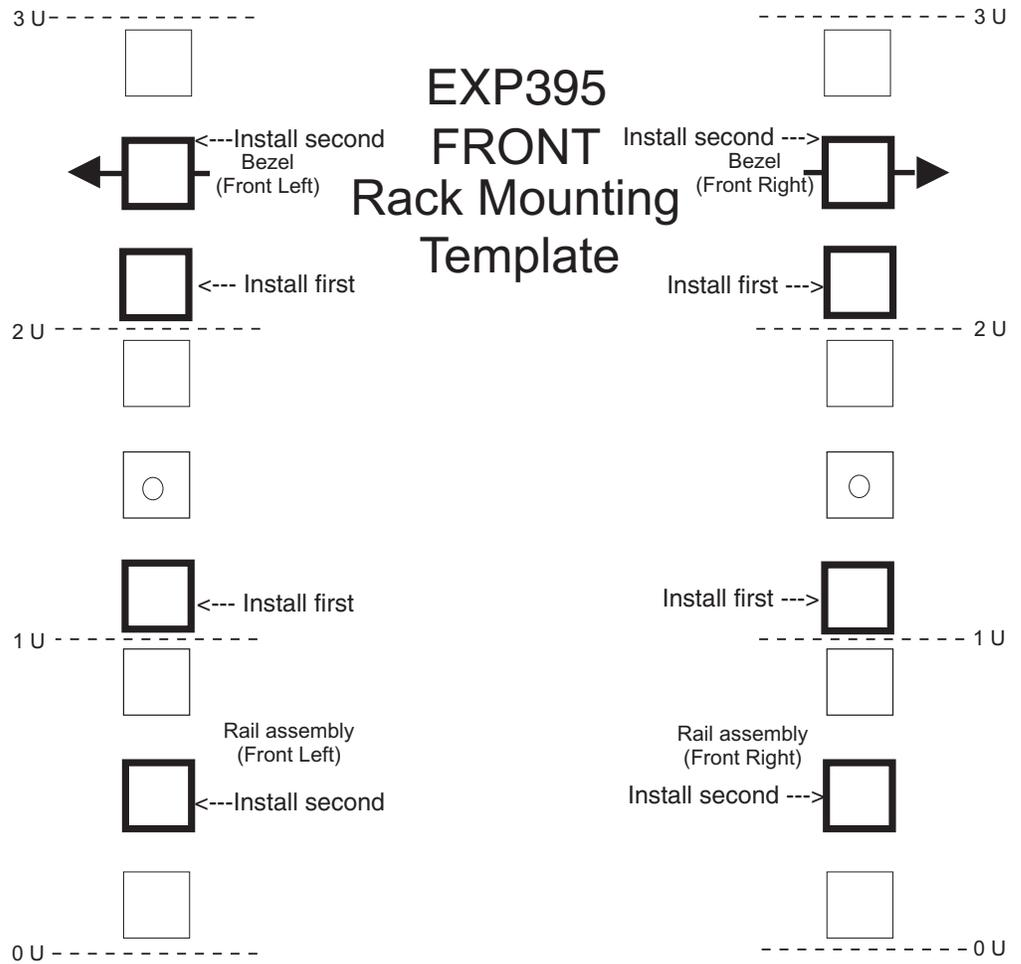
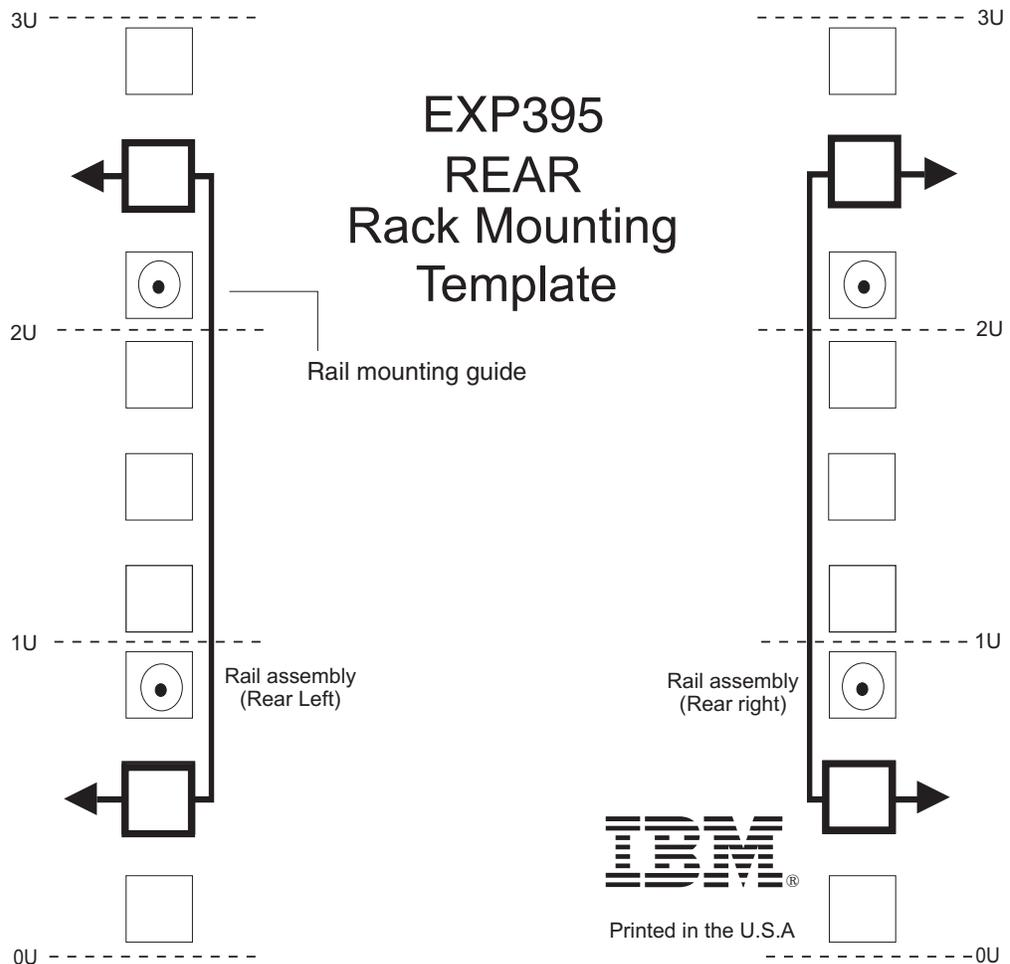

Figure 9. Front rack mounting template
Figure 10. Rear rack mounting template
Use the following templates (Figure 9 on page 23 and Figure 10 on page 24) to identify the proper locations for inserting M5 screws when mounting the support rails and EXP395 to a rack. The locations for the M5 screws are highlighted in the templates.
Attention: Use the rack mounting template provided in Figure 9 on page 23 and Figure 10 on page 24 to locate the proper rack mounting holes for installing the support rails into the rack.
6. Hold the back of the rail against the inside of the rack-mounting flange. Make sure the rail mounting guide pins are in the correct holes. See Figure 10 on page 24 for an illustration.
Note: Be sure to install the screws labeled *install first* in Figure 9 on page 23.